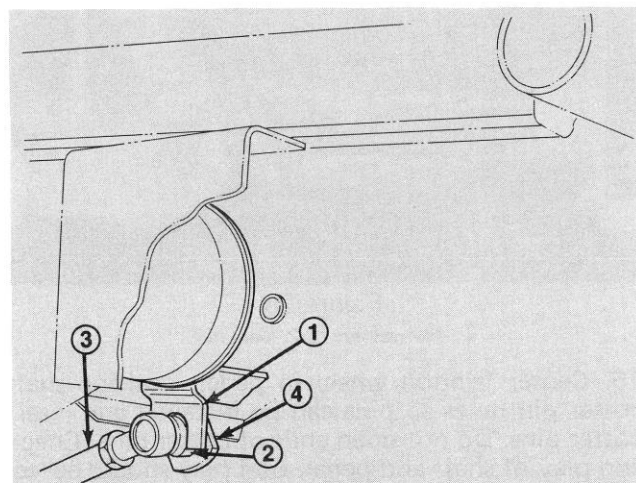

Figure 25
12. Position slotted portion of clutch plate over boss on right side of traction pedal (Fig. 25). Clutch plate must move freely on boss and should be able to be adjusted, if necessary, so it can just clear lever of traction pedal bracket (Fig. 25). File excess portion of weldment away if this is not possible (Fig. 25).